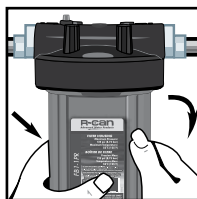

FIGURE 5B
3. Remove the filter sumps from the unit by turning counter-clockwise until the sump falls free from the head (be careful as the sumps will be full of water and they will be heavy) (Figure 5B).